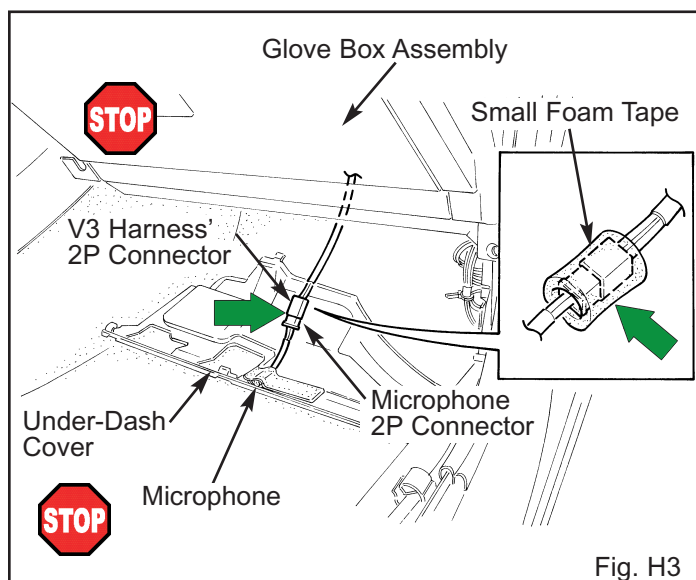

Fig. H3
4. Refit the glove box assembly. (Fig. H3)
5. Plug in the microphone's 2P connector to the V3 harness' 2P connector. (Fig. H3)
- ➡ 6. Wrap the 2P connector with one small strip of foam tape. (Fig. H3)
7. Refit the under-dash cover. (Fig. H3)